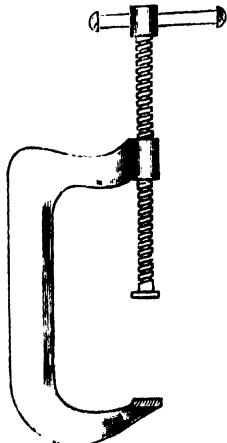

Fig. 101.
**The Holdfast.**—This is an appliance for clamping wood to the bench when it is required to hold it steadily in one position. One form (called the "G cramp") is shown in Fig. 101, and its use in Fig. 104.